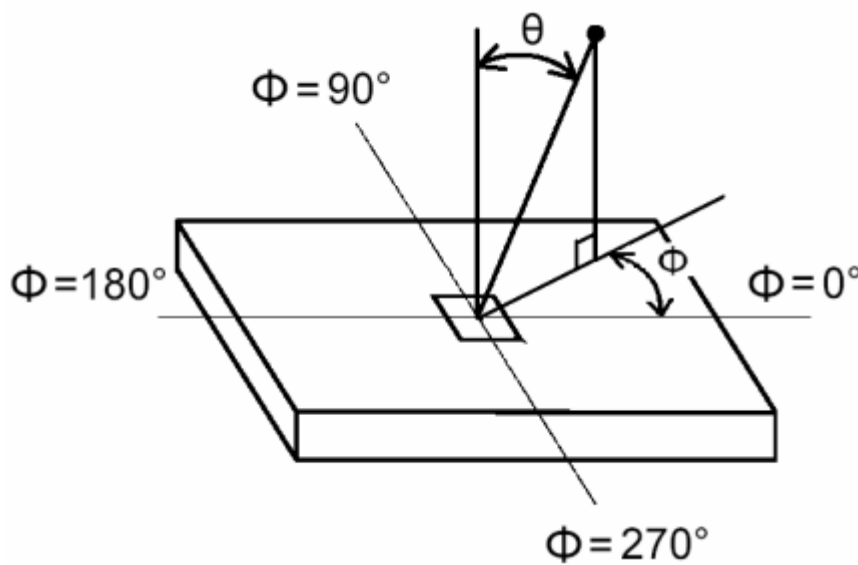

Fig.4-5 Viewing Angle Definition
5. Viewing angle is the angle at which the contrast ratio is greater than 10. The angles are determined for the horizontal or x axis and the vertical or y axis with respect to the z axis which is normal to the LCD surface. For more information see Fig. 4-5.